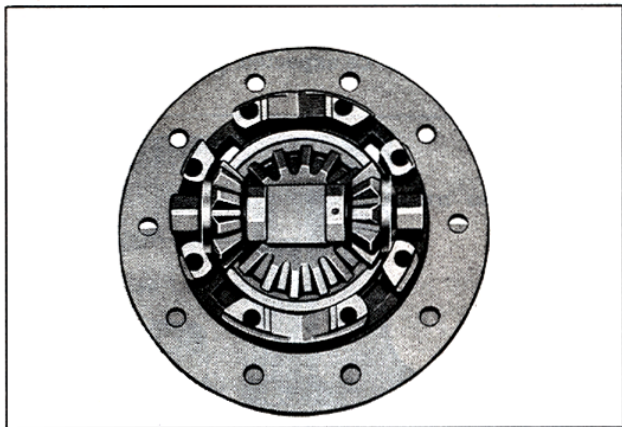

Fig. 40—Installing Male Shaft
3. With the ring gear case half of the differential case in a vertical position, install one mate shaft and gears as shown in Fig. 40. Make certain that notch in shaft is up, and shaft is 90° from "V" notches in case.